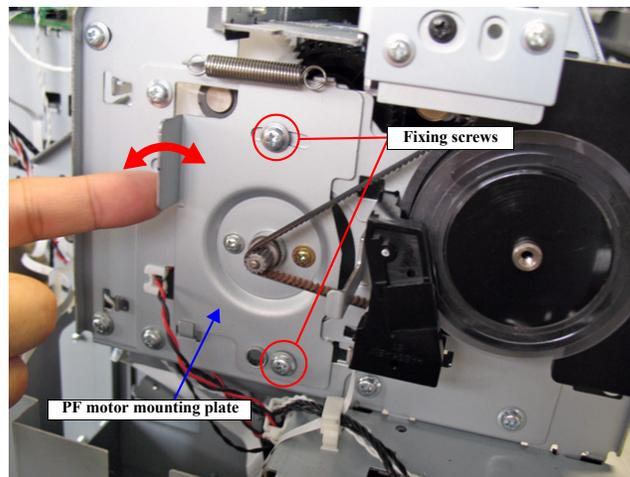

Figure 4-57. Softening the PF TIMING BELT
9. Bring the microphone of the tensimeter close to the belt as shown in Figure 4-57.